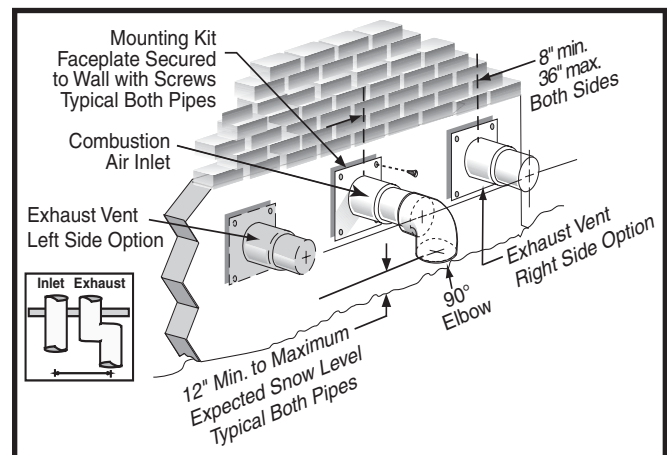
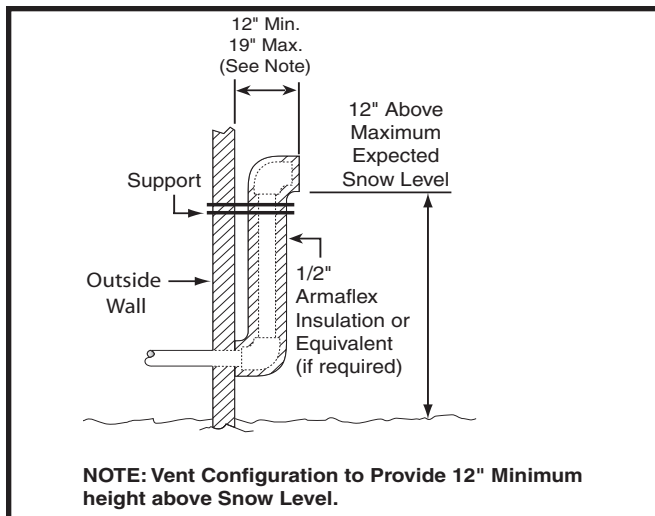

Figure 6. Inlet and Exhaust Pipe Clearances
Figure 8. Alternate Horizontal Vent Installation
Vent and combustion air intake terminations shall be installed as shown in Figures 6 & 7 (page 13) and in accordance with these instructions:
- When the vent pipe must exit an exterior wall close to the grade or expected snow level where it is not possible to obtain clearances shown in Figure 6, a riser may be provided as shown in Figure 8. Insulation is required to prevent freezing of this section of pipe. See Table 3 for vent freezing protection.